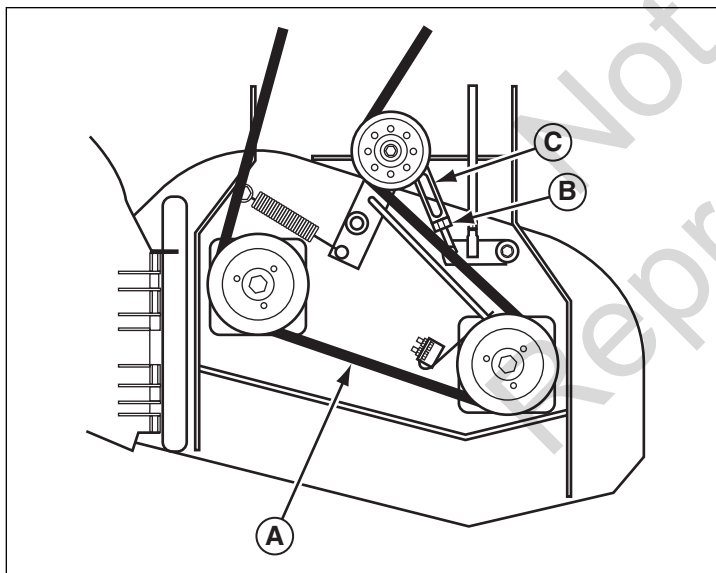

Figure 20. Check Belt Tension
4. Check the blade engagement belt (**A, Figure 20**) tension. The proper belt tension is when a 10 lbs. (13,5 Nm) force is required to deflect the belt 1/2" (1,3 cm) between the spindle pulleys.
3. Loosen the jam nut (**B, Figure 20**) and rotate the turnbuckle until the belt is slack enough to remove from one of the spindle pulleys.
4. Remove the old belt and replace with a new one. Make sure the V-side of the belt runs in the pulley grooves (see Figure 20).
6. Tighten the turnbuckle (**C**) until a 10 lbs. (13,5 Nm) force is required to deflect the belt 1/2" (1,3 cm) between the spindle pulleys (see Figure 20).